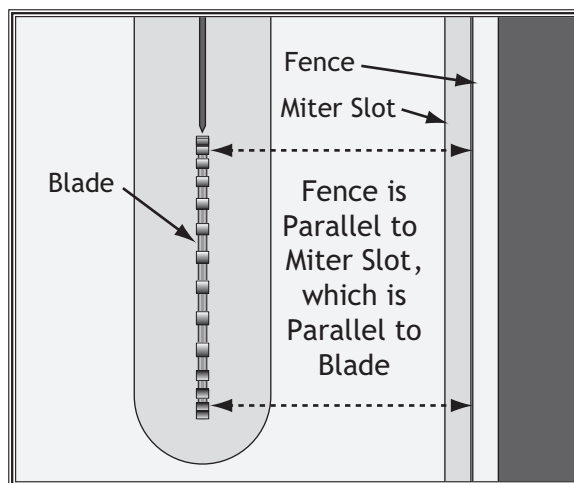

Figure 28. Checking fence parallelism with blade.
21. Slide fence up against right hand edge of miter slot, and lock it in place. Examine how fence lines up with miter slot (see Figure 28).